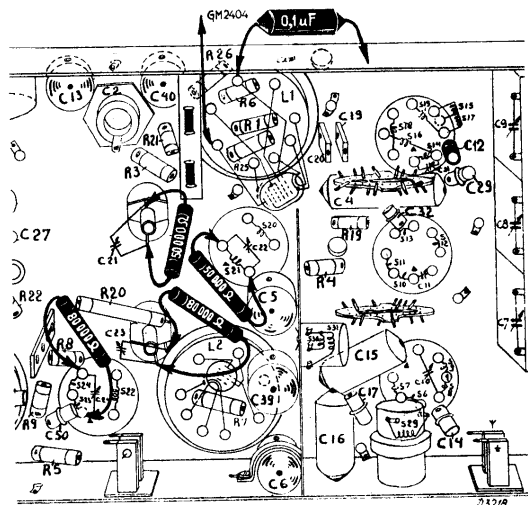

Fig. 3.
5. Connect 50,000 ohms resistance across C22 and 80,000 ohms across C23 (see Fig. 3).
8. Damp C21 with 50,000 ohms resistance and C24 with 80,000 ohms (see Fig. 3).
3. Connect aperiodic amplifier GM2404 to anode of L1 (see Fig. 3).
5. Earth the first grid of the mixing valve through a condenser of 0.1 μF (see Fig. 3).
11. Trim C12 for maximum output (see Fig. 3).